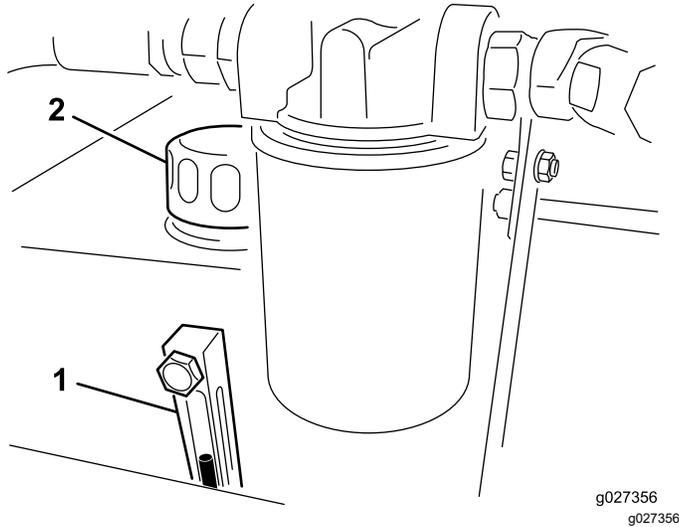

Figure 12
2. Check the level of the fluid by viewing the sight gauge (Figure 12).